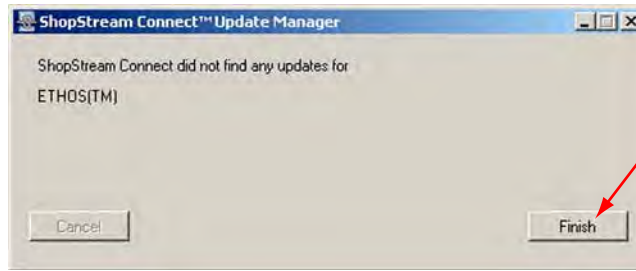

Figure B-12 *Sample no updates available screen*
- a. If no upgrades are available, a screen similar to Figure B-12 displays. Select **Finish** to close the Update Manager, then skip ahead to Step 7.